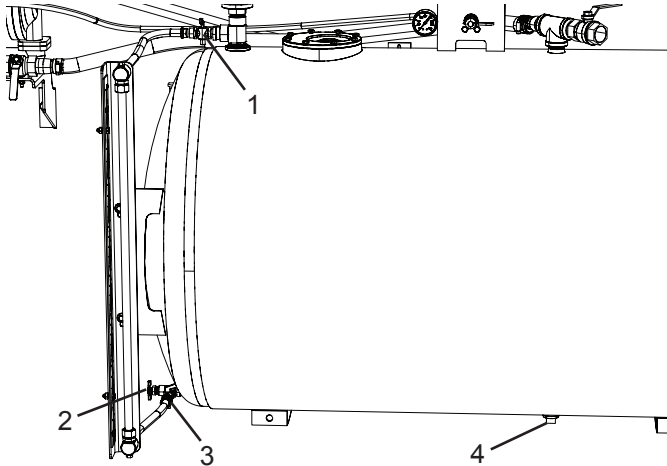

Figure 31
3. Remove the water tank drain plug (Figure 31, Item 4), or open the drain valve (Figure 31, Item 2).
4. Open the main tank sight glass isolator valve (Figure 31, Item 1).
5. Open the sight glass drain valve (Figure 31, Item 3).
6. When no more water comes from the tank drains, install the water tank drain plug (Figure 31, Item 4).
7. Close the sight glass drain valve (Figure 31, Item 3).
8. Close the tank drain valve (Figure 31, Item 2).
9. Close the main tank sight glass isolator valve (Figure 31, Item 1).